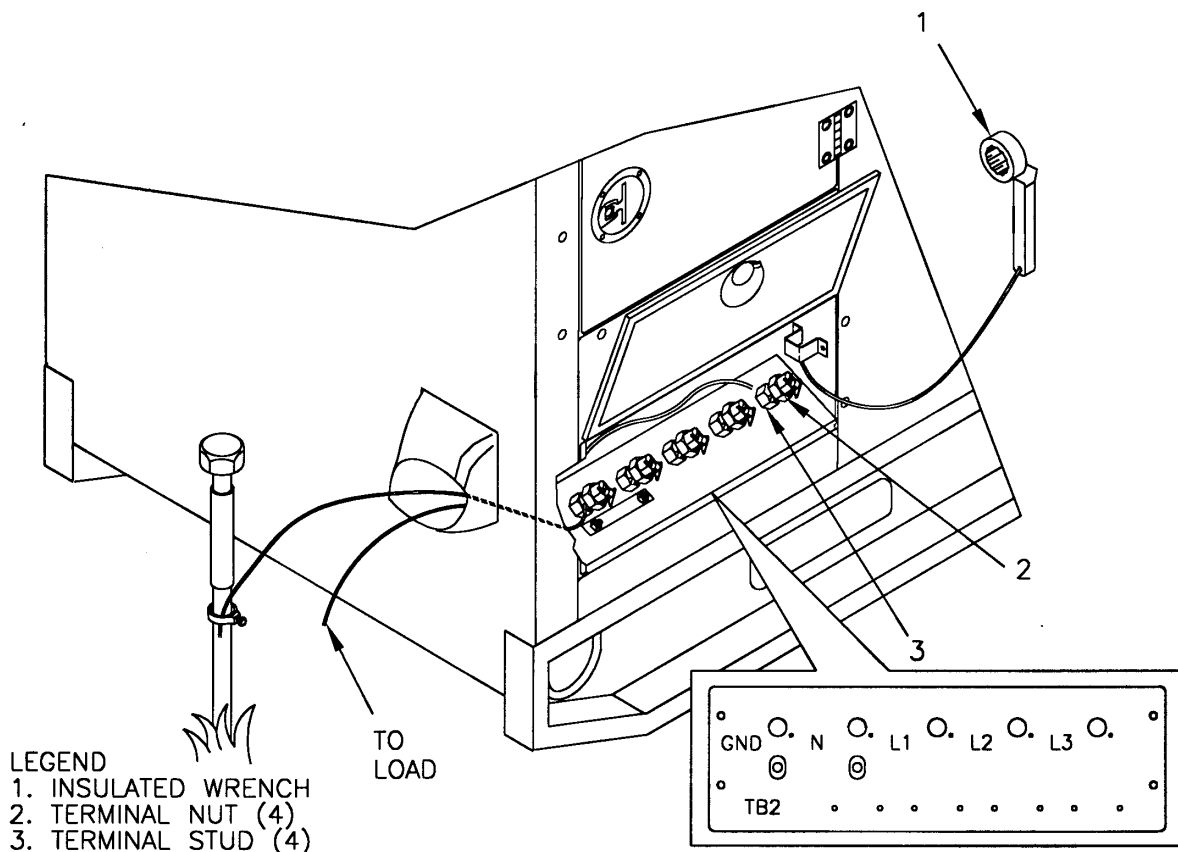

FIGURE 2-7. INSTALLATION OF LOAD CABLES
- d. Using insulated wrench (1, Figure 2-7), loosen terminal nuts (2) on terminals selected in step b.
- e. Insert load cables through load terminal access boot and into terminal studs (3). Tighten terminal nuts (2).
- f. Secure insulated wrench (1) in bracket beside output load terminal board, and close terminal board access door.